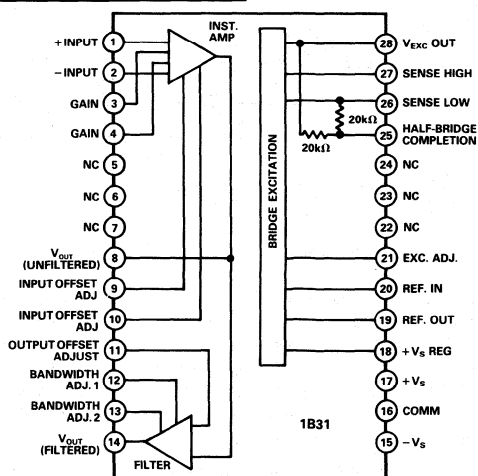

Figure 1. Block Diagram and Pinout
Model 1B31 is based on a two-stage amplifier design and an adjustable voltage regulator section, as shown in Figure 1. The front end is a low noise, low drift, instrumentation amplifier (IA) that is optimized to amplify low level transducer signals (from 2mV full scale) riding on high common-mode voltage (± 9.5V). The gain of the IA is programmed by a single resistor (1V/V to 2500V/V) and the input offset nulled out by an external potentiometer across the offset adjust Pins 9 and 10. The inverted signal (V-INPUT - V+INPUT) is brought out to Pin 8 for applications such as vibration and torque testing where the unfiltered output is required.